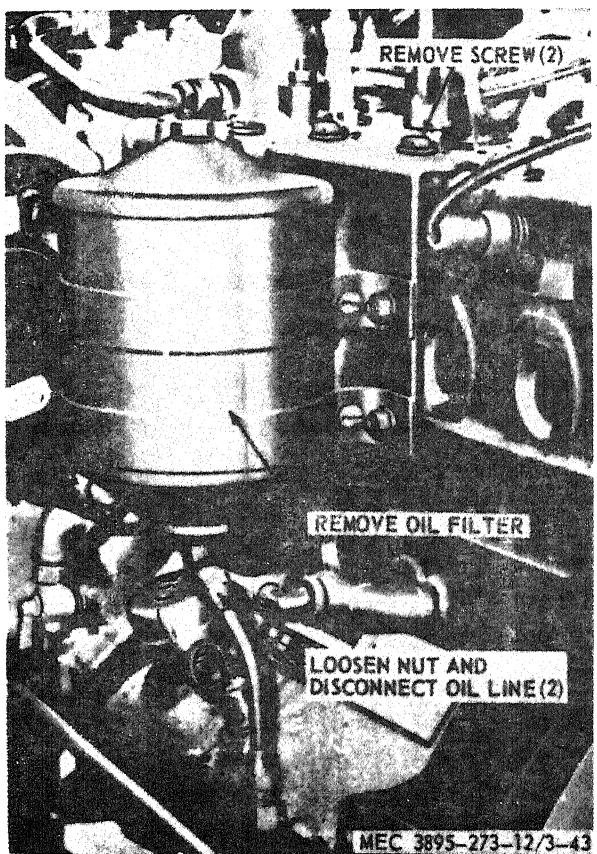

Figure 3-40. Oil filter, removal and installation.
a. Removal. Remove the oil filter, lines, and fittings as instructed on figure 3-40.
- (3) Install the straps (8) on the body (7) and secure with the screws (6), washers (29), and nuts (30).
- (4) Position the bracket (33) on the body (7) and secure with the screws (32), washers (28 and 31), and nuts (27).
e. Installation. Install the oil filter, lines, and fittings in reverse of instructions on figure 3-40.